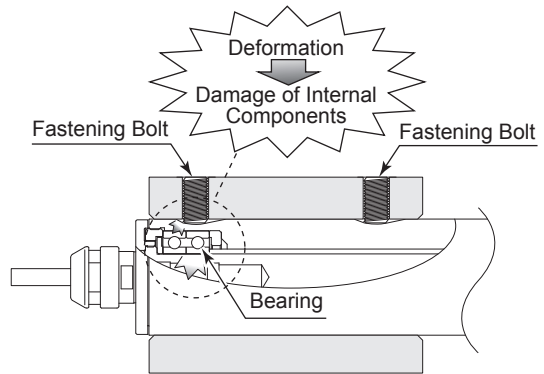

Fig. 18
**Do not allow set screws to come directly in contact with the Motor Spindle body as shown in Fig. 17, as this will result in damage to the Motor Spindle housing and internal components. When installing, never clamp directly over the bearings, as this will result in bearing damage. (Refer to Fig. 18)**